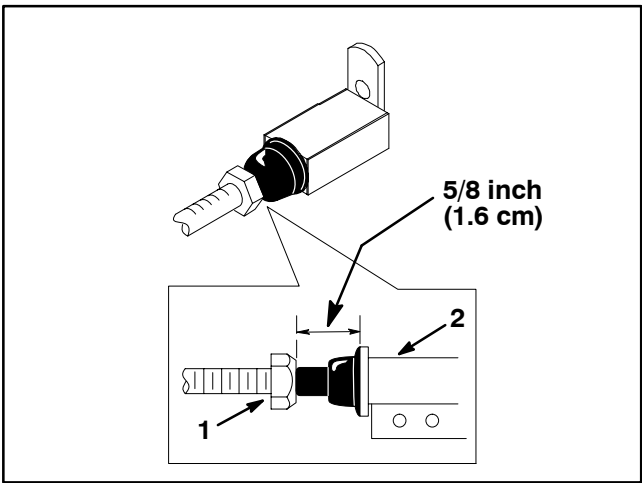

Figure 14
2. With the accelerator pedal released, adjust the distance between the head of the accelerator switch bolt and the body of the switch to 5/8 inch (1.6 cm) (Fig. 14).